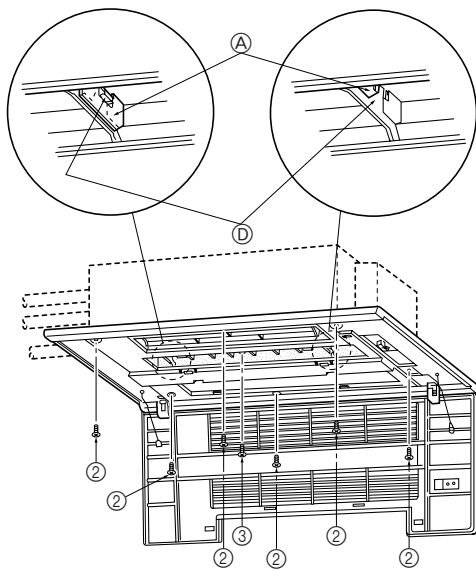
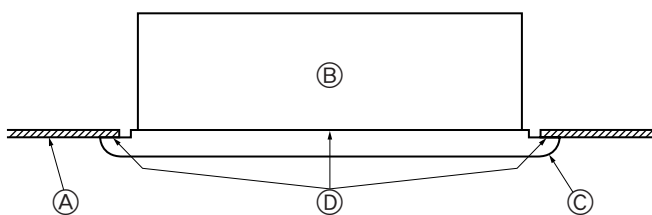

Fig. 5-5
Fig. 5-6
- Adjust the front panel so that it fits properly in the angle between the ceiling and the wall, and install the securing bolts ② (supplied with this grille) in their four places at left and right, leaving them slightly loose. (Fig. 5-5)
- Next tighten the securing bolts ② and securing screws ③ in the center three places.
- Finally tighten the securing bolts ② in the four places at left and right.
- At this point, make sure there are no gaps between the indoor unit and the front panel, and between the front panel and the ceiling surface. If there are gaps, the wind may come in and it may cause water to drip (Fig. 5-6).
- * Tighten the securing bolts ② and securing screws ③ completely.